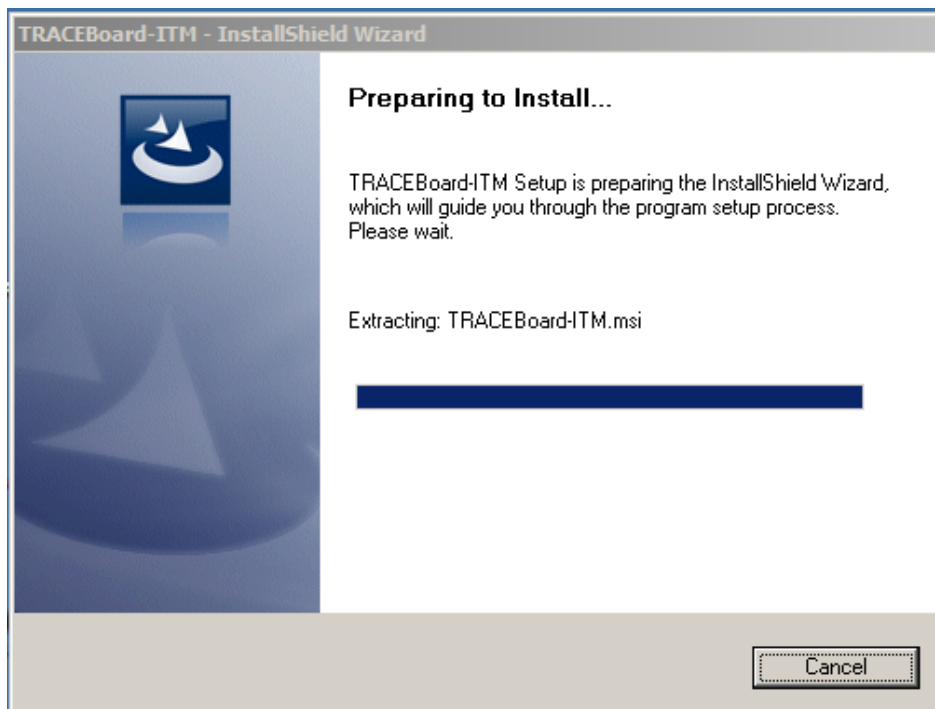

Fig 2.1.1
2. Double click the CD-ROM icon on your computer to open CD-ROM folder, and then double-click the setup file (TRACEBoard-ITM) to run it manually, see fig 2.1.1